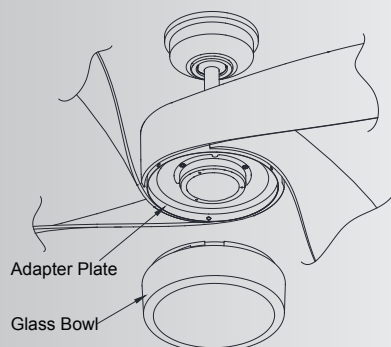

Fig. 21
**Step 1.** Securely attach glass bowl by twisting clockwise onto the adapter plate. Don't overtighten or force it. (Fig. 21)